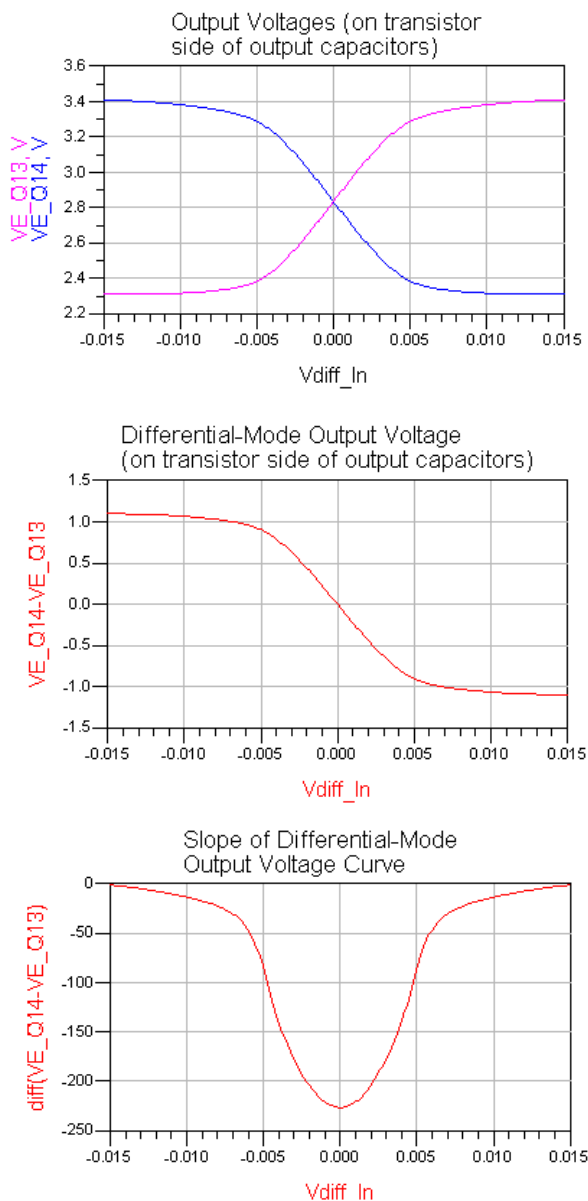

Figure 1-4. Data from simulation of amplifier DC transfer characteristics
3. **Simulate**. When the simulation is finished, the following results should appear in the Data Display as shown in Figure 1-4: